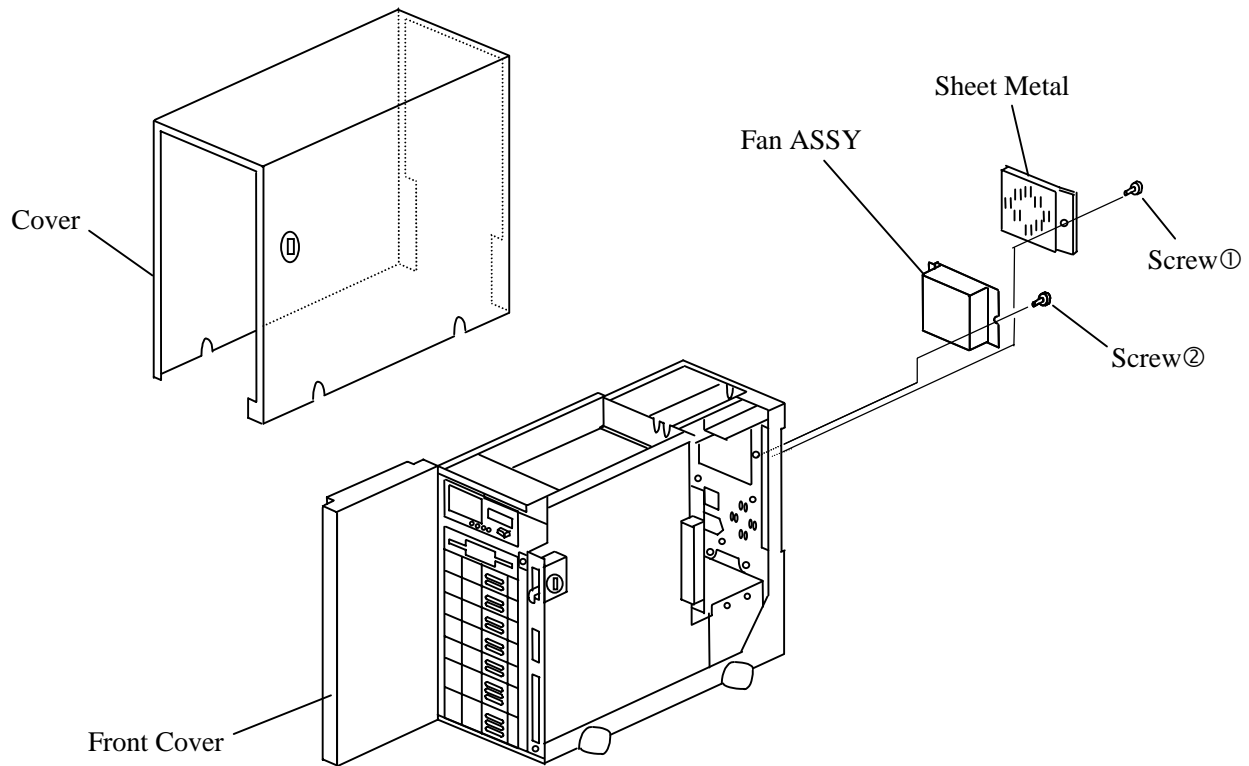

Figure 11. Replacement Fan ASSY
11. Replacing the Fan ASSY (See Figure 11.)